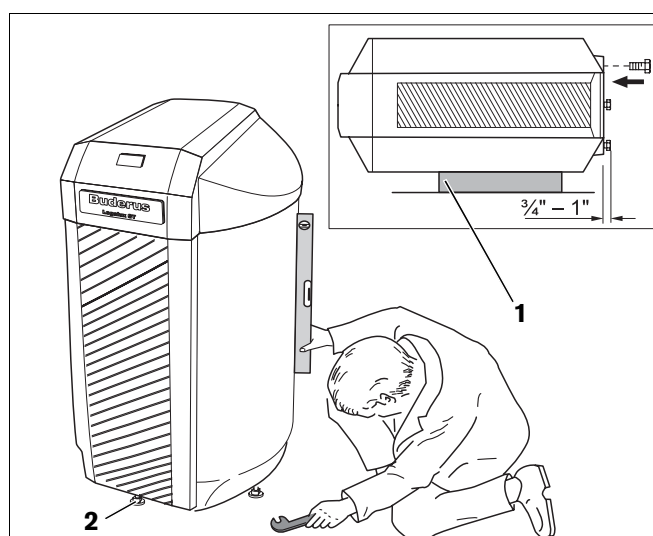

Fig. 5 Leveling the DHW tank vertically
- Place the lid protector (Fig. 5, **Item 1**) on the floor.
- Screw in the three adjustable feet supplied (Fig. 5, **Item 2**) up to $\frac{3}{4}$ " – 1".